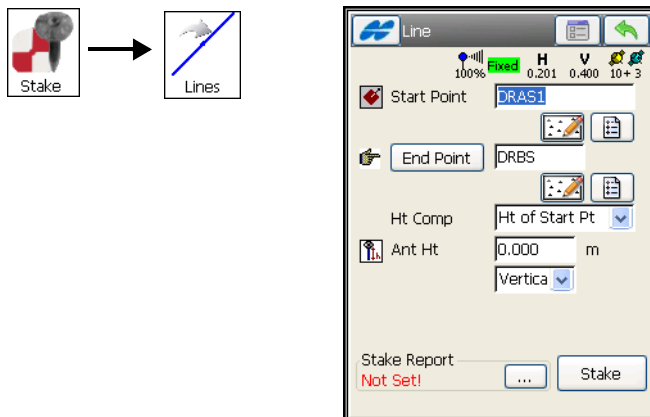

Figure 9-20. Stakeout Line
1. To stake points along a line, tap **Stake ► Lines** (Figure 9-20).
2. On the Stakeout *Line* screen (Figure 9-20 on page 9-16), specify the reference line by choosing the start point and either the end point or the azimuth. Currently, the stakeout points have the same height as the starting point. Also, specify the antenna parameters (GPS+ mode), or the height of the rod (TS mode). Tap the **Stake** button.